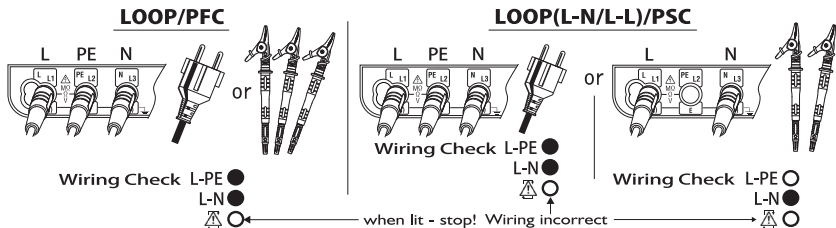

Fig.29
(1) Operate the Power button and turn on the instrument. Turn the Function switch and set it to either the LOOP or PSC/PFC position.
(2) Insert the Test Lead into the instrument. (Fig.29)
After the connection, ensure that the symbols for Wiring check on the LCD are in the status indicated in Fig.29 before pressing the test button.
If the status of the symbols for Wiring check differ from Fig.29 or symbol is indicated on the LCD, DO NOT PROCEED AS THERE IS INCORRECT WIRING. The cause of the fault must be investigated and rectified.